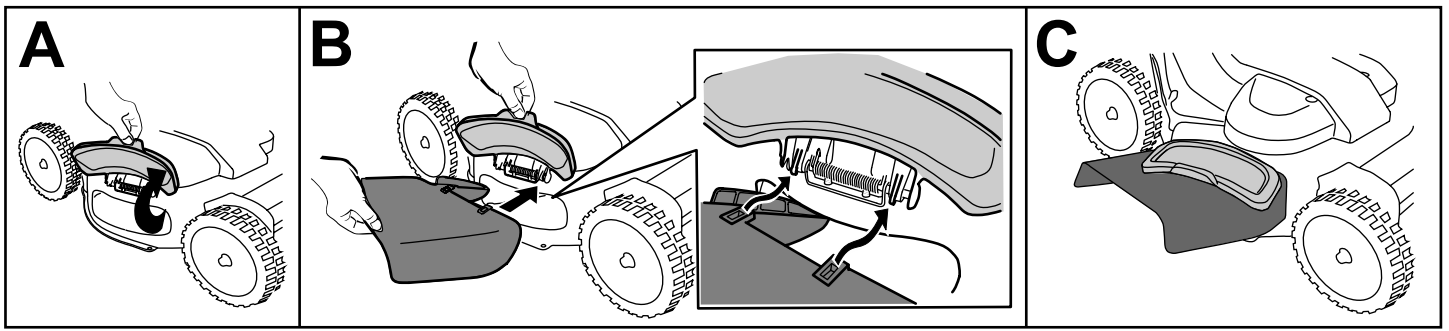

Figure 22
1. Lift open the side-discharge door (A of Figure 22).
2. Install the side-discharge chute and close the door onto the chute (B and C of Figure 22).